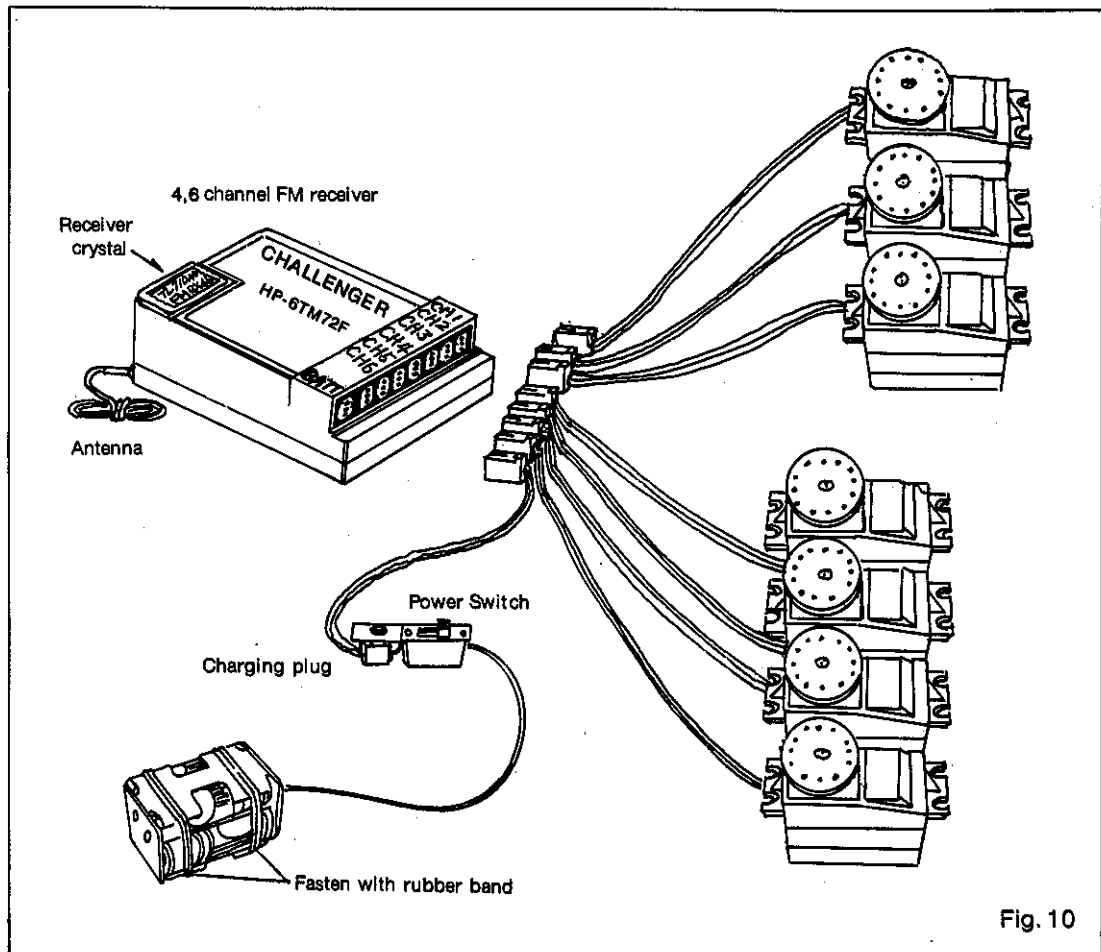

Fig. 10
- Connect the servos and switches firmly as shown in Fig. 10. Then extend the transmitter and receiver antennas fully.